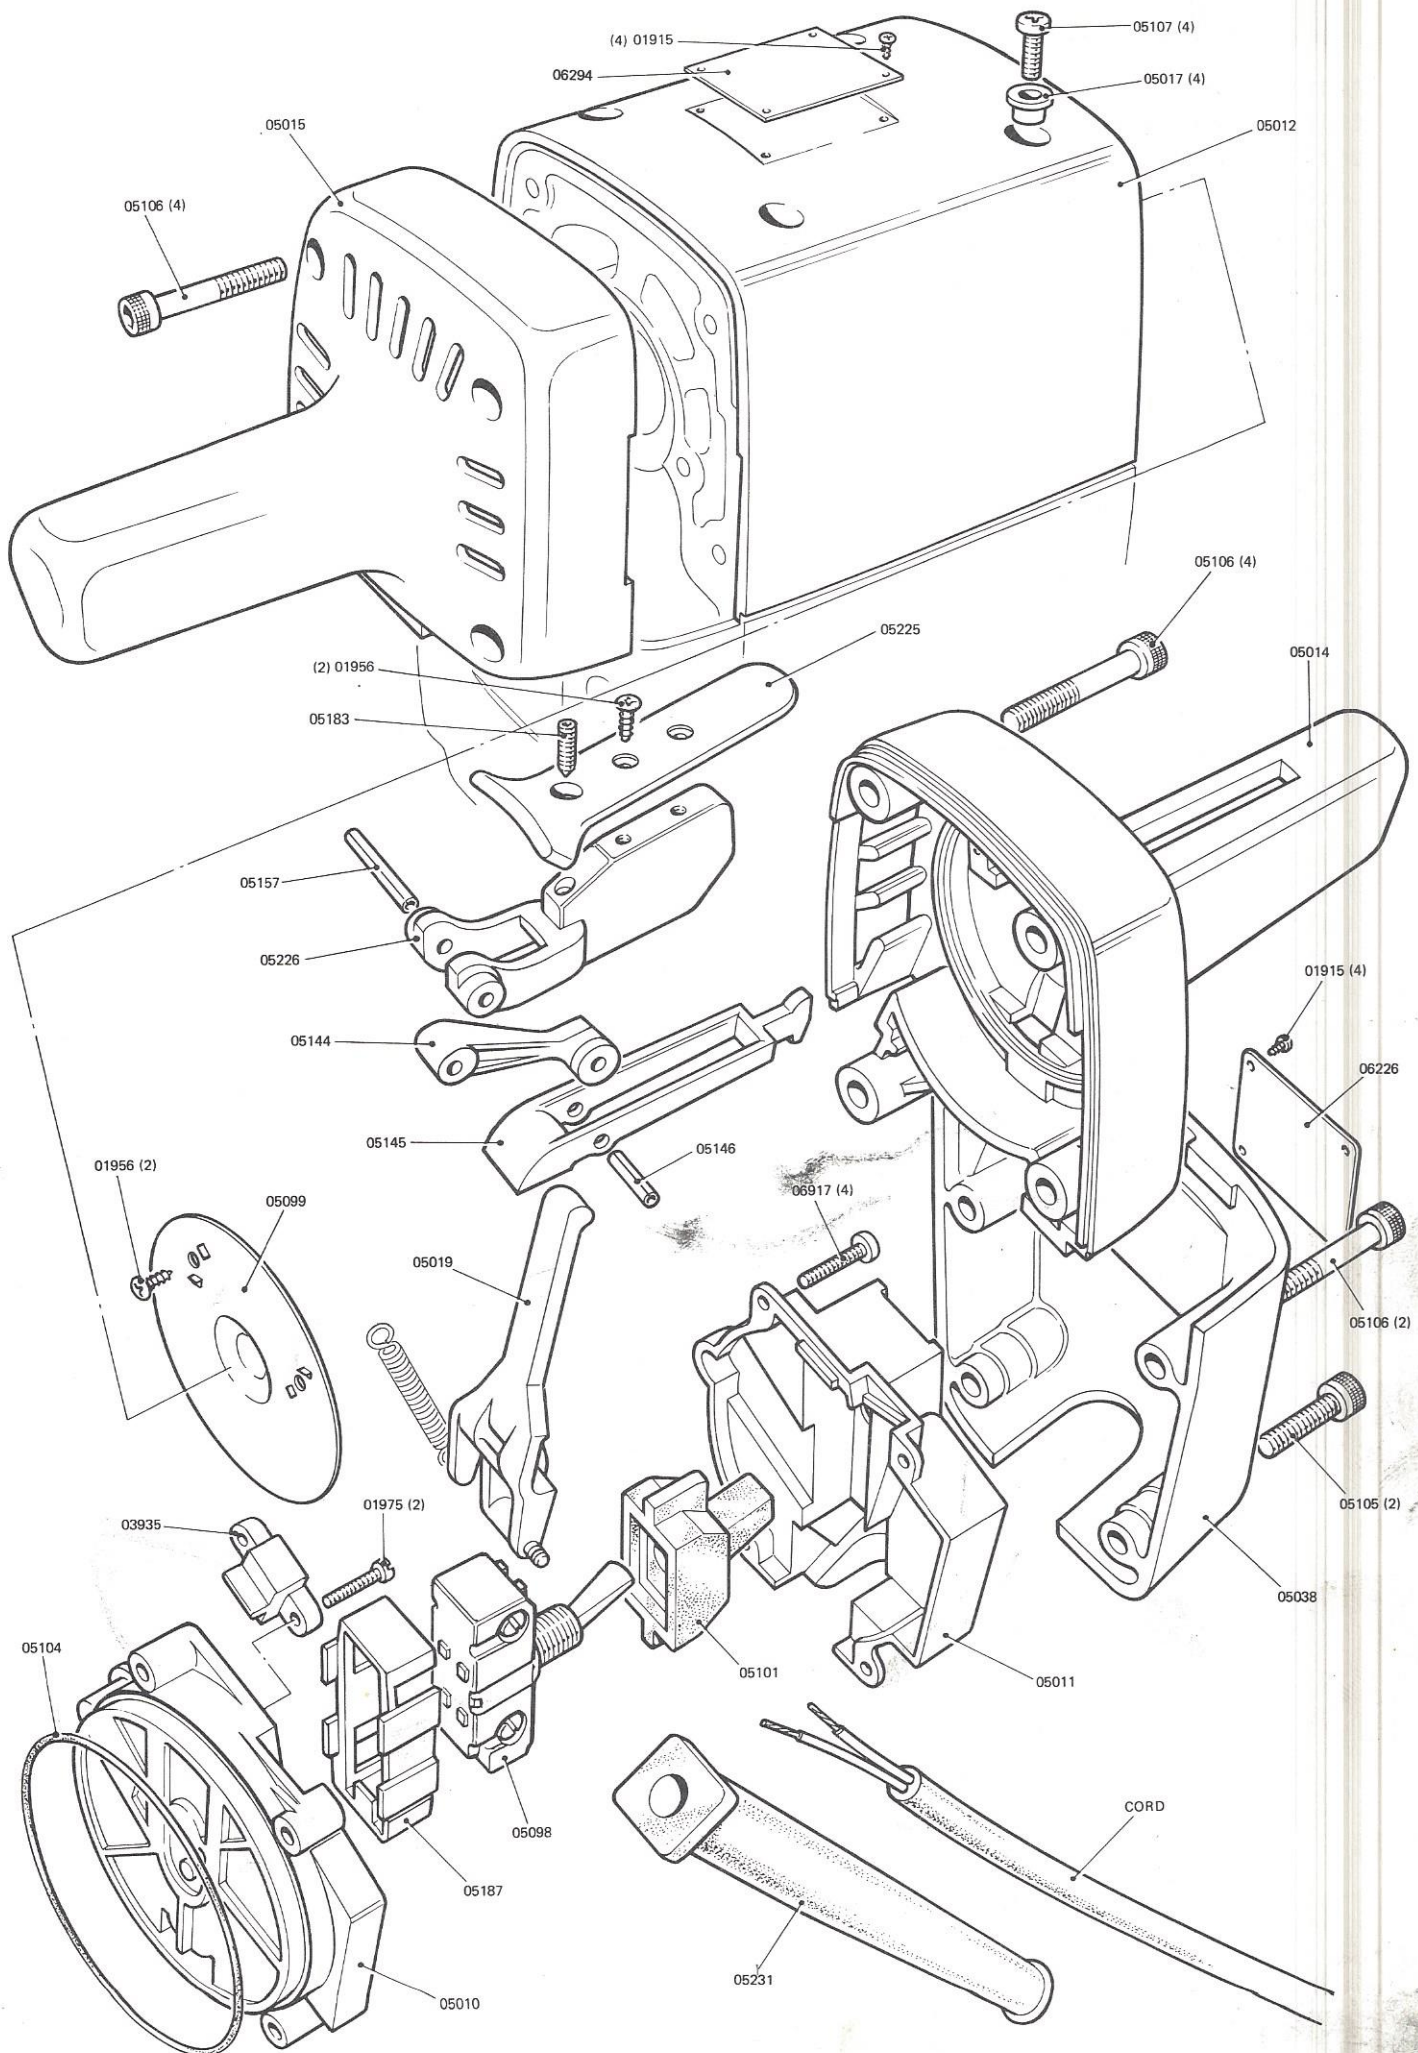

Figure 25 Top Cover, Handles and Switch assembly
17.1 Top Cover, Handles and Switch assembly (see Figure 25)
- †01915 Screw (8)
- †01956 Screw (4)
- †01975 Screw (2)